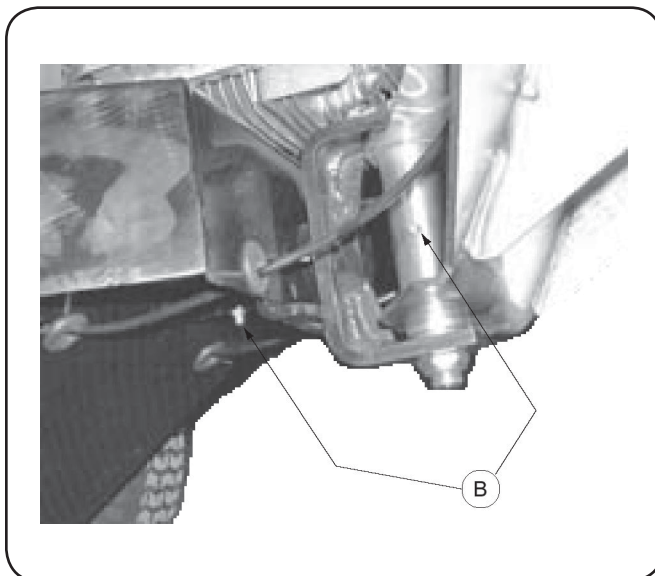

Figure 6-2
Lubricate the two grease fittings (B) on the pivot assembly. See Figure 6-2.